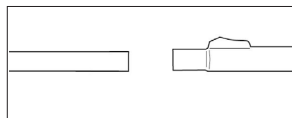

Figure 3/2
2. Telescopic tube can be extended or shortened as necessary by pressing the button and sliding it back and forth (Figure 3/3).